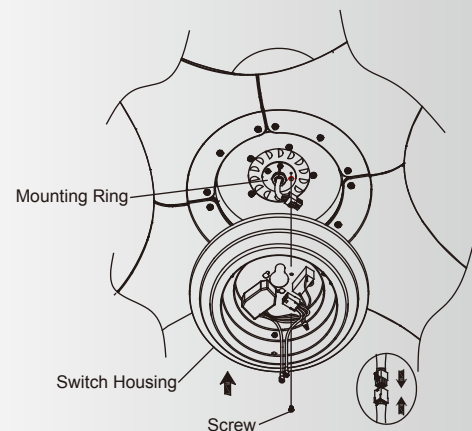

Fig. 19
Step 1. Remove the screw nearest the red dot label on the mounting ring and loosen the other two (do not remove). Align the round holes on the switch housing and mounting ring. Align the two slot holes on the switch housing over the 2 screws previously loosened from the mounting ring. Let the 9-pin connector from motor body through the middle hole of switch housing and pushing it to the 9-pin connectors from switch housing together. Turn the switch housing until it locks in place at the narrow end of the key holes. Securely tighten all three screws. (Fig. 19)